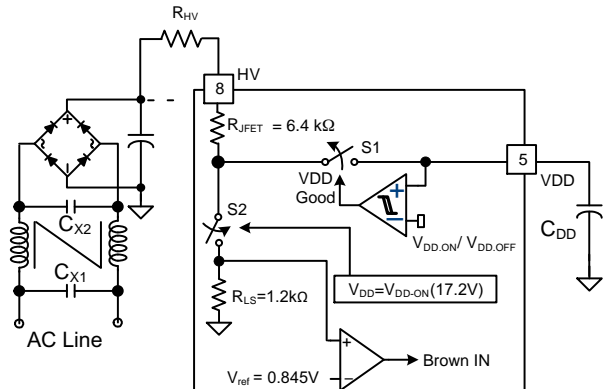
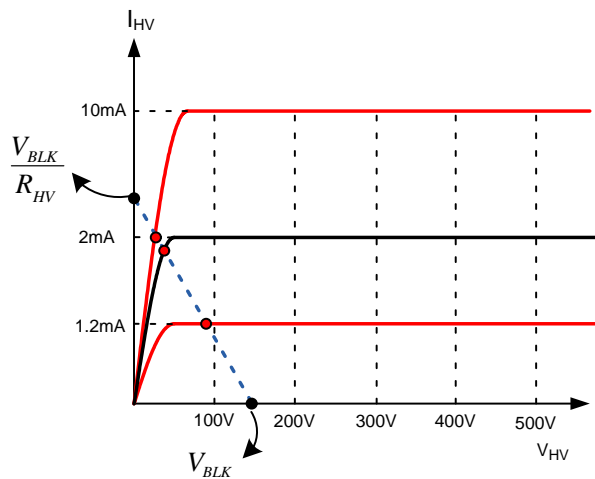

Figure 31. HV Startup Circuit
Figure 32. Characteristics of HV Pin
Figure 31 shows the high-voltage (HV) startup circuit. An internal JFET provides a high voltage current source, whose characteristics are shown in Figure 32. To improve reliability and surge immunity, it is typical to use a  $R_{HV}$  resistor between the HV pin and the bulk capacitor voltage. The actual current flowing into the HV pin at a given bulk capacitor voltage and startup resistor value is determined by the intersection point of characteristics I-V line and the load line as shown in Figure 32.
charge the hold-up capacitor,  $C_{VDD}$ , through  $R_{HV}$ . When the  $V_{DD}$  voltage reaches  $V_{DD-ON}$ , the sampling circuit shown in Figure 31 is turned on for  $t_{HV-det}$  (100  $\mu s$ ) to sample the bulk capacitor voltage. Voltage across  $R_{LS}$  is compared with reference which generates a signal to start switching. If brown-in condition is not detected within this time, switching does not start. Equation (9) can be used to program the brown-in of the system. If line voltage is lower than the programmed brown-in voltage, FAN604P goes in auto-restart mode.